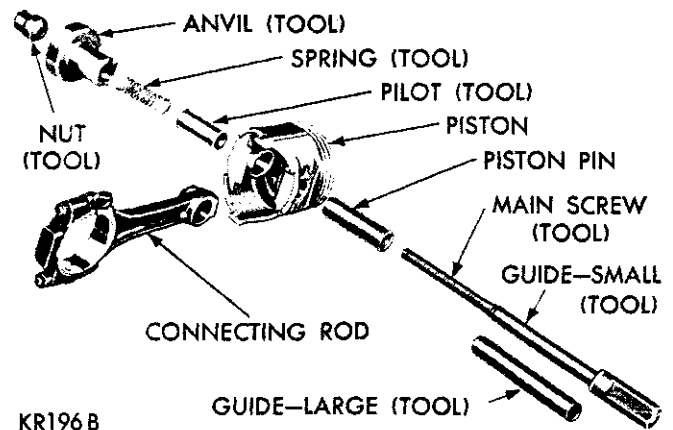
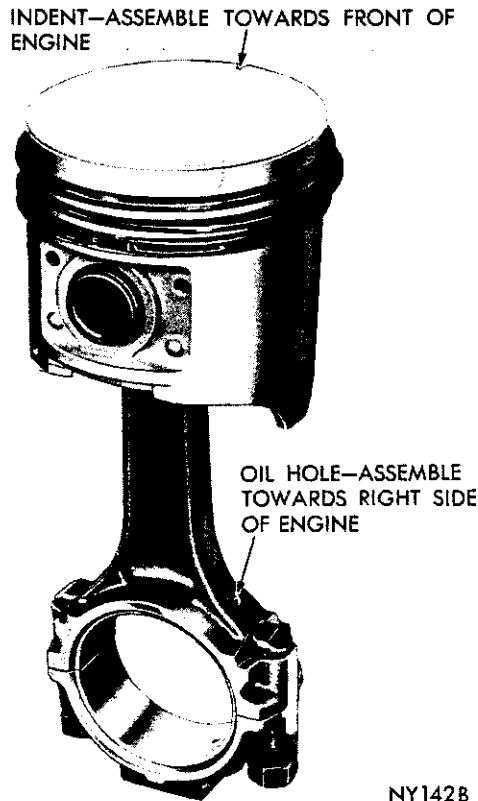

Fig. 37—Tool Arrangement for Installing Piston Pin
Fig. 38—Connecting Rod Oil Hole
(2) Lubricate piston pin holes in piston and connecting rod.
(3) Arrange tool parts for installation of piston pin (Fig. 37).
(4) Install spring inside the pilot and install spring and pilot in the anvil.
(5) Install piston pin over main screw.
(6) Place piston, with "Notch Front" up, over the pilot so that pilot extends through piston pin holes.
(7) Position connecting rod over the pilot which extends through piston hole. **The oil hole in connecting rod must point toward the direction shown in Figure 38.**